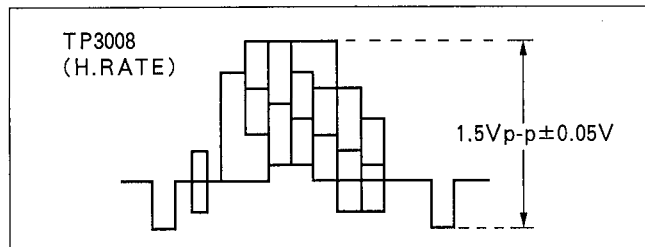

Figure E5
2. Adjust VR3001 so that the level becomes 1.5Vp-p  $\pm$  0.05Vp-p as shown in Figure E5.